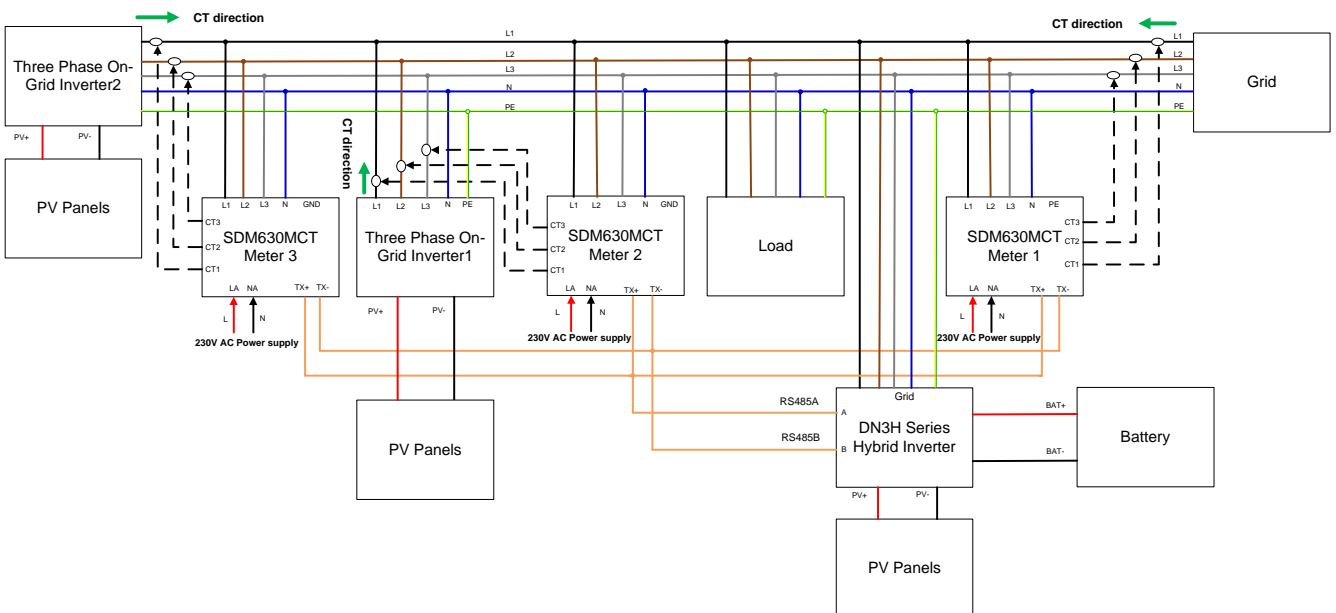

Figure 5-28 Connect two On-Grid three-phase inverters
4) Connect two On-Grid three-phase inverters(Figure 5-28): The local address needs to be set as "001" on the inverter screen, and meter1 address set as "001", meter2 address set as "002", and meter3 address set as "003". The address of meter1 itself needs to be set to "001", meter2 needs to be set to "002", and meter3 needs to be set to "003".